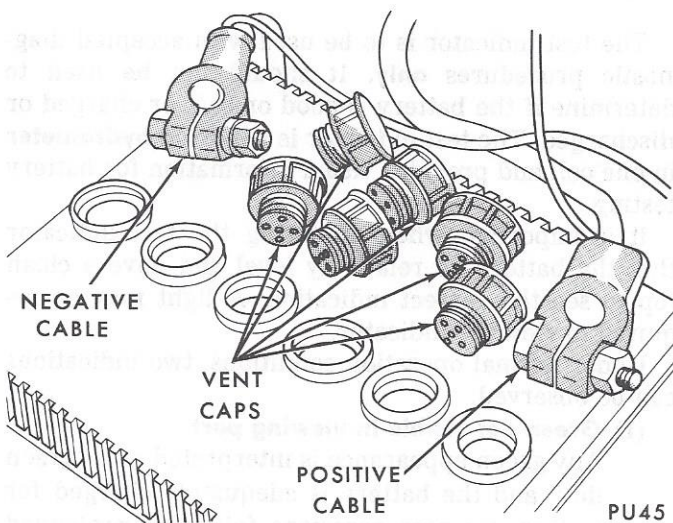

Fig. 15—Vent Caps Removed
(1) Turn ignition switch and headlights off and all accessories off.
(2) Remove vent caps of both booster battery and discharged battery (Fig. 15).
(3) Make sure electrolyte is at proper level.